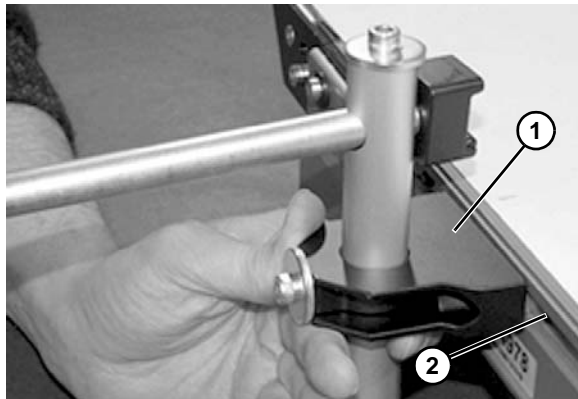

Figure 35
1. Install guide bracket assembly (**Figure 35, item 1**) into the conveyor t-slot (**Figure 35, item 2**).